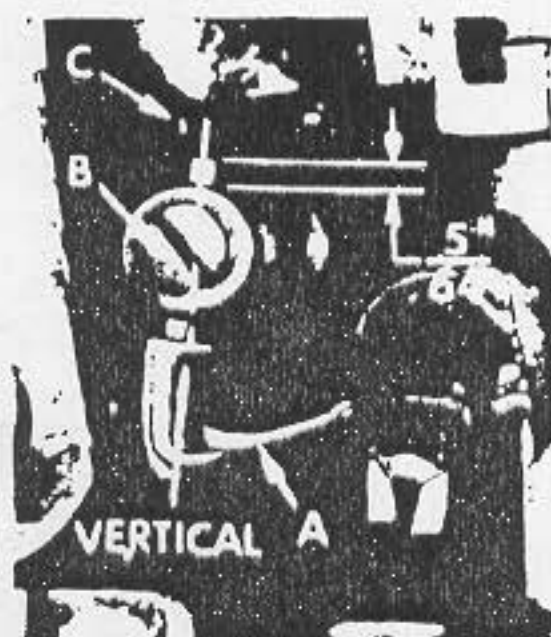

Fig. 6
Preliminary Setting: When looper is at the right end of its stroke, looper holder should be set to position the looper shank about vertical (Fig. 6). The top end of the looper shank should extend approximately $5/64$ inch above holder (Fig. 6).
Insert upper looper (A, Fig. 6) in its holder. Screw (B) holds the looper in its